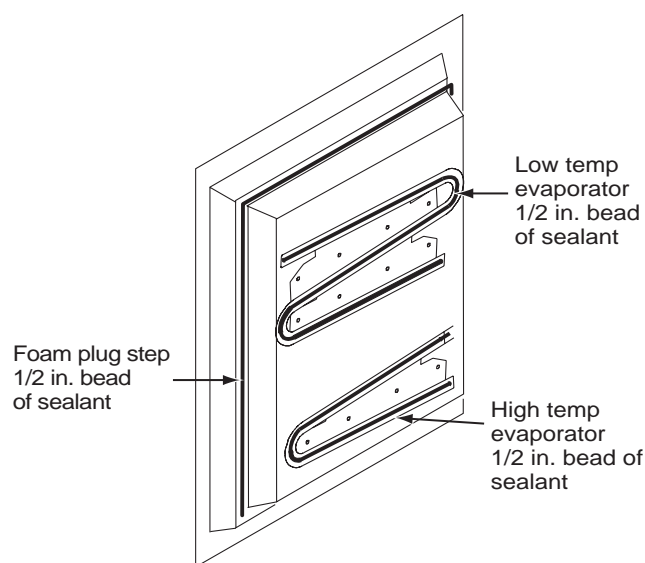

Figure 30. Application of Sealant.
2. Apply a 1/2 inch bead of sealant to the cooling unit low and the high temperature evaporators, and to the foam plug step. See Figure 30.